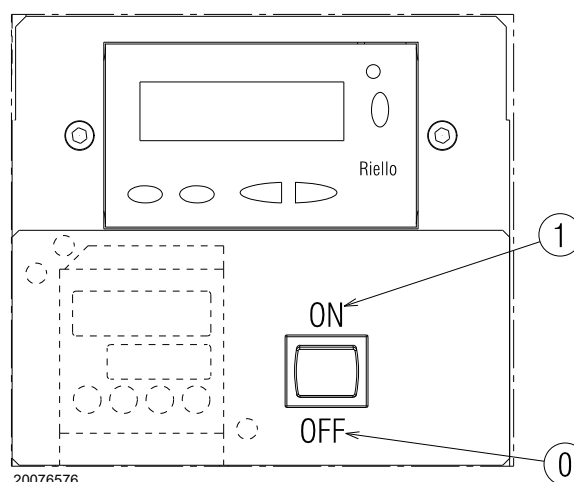

Fig. 29
Close the thermostats/pressure switches and set the switch of Fig. 29 to “1/ON”.
- put the switch of Fig. 29 to “0/OFF” and wait until the control box carries out the switching off phase;